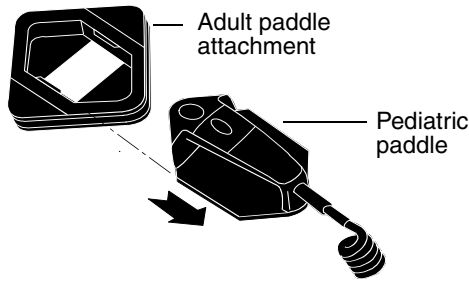

Figure 5-7 Accessing a Pediatric Paddle
- 2 Slide the paddle handle back until you hear a click (refer to Figure 5-7).